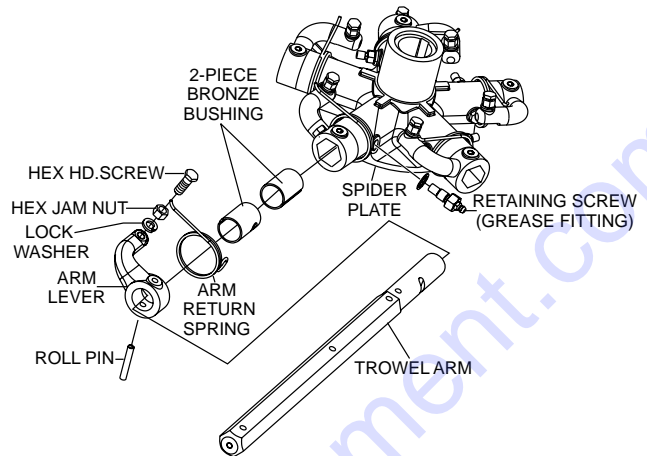

Figure 36. Remove Roll Pin and Zerk Fitting
2. Each trowel arm is held in place at the spider plate (Figure 36) by a hex head bolt (zerk grease fitting) and a roll pin. Remove both the hex head bolt and the roll pin from the spider plate.